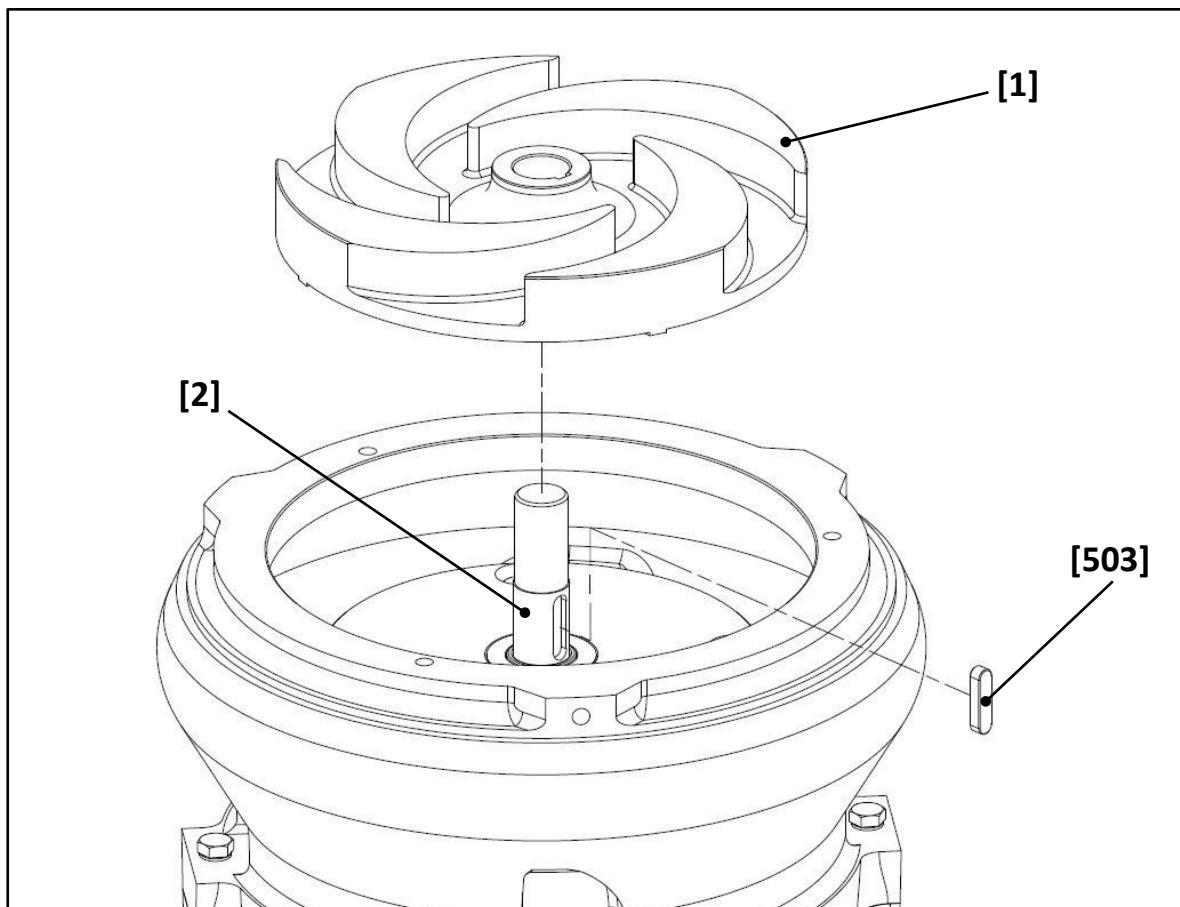

Fig. 30
- remove the impeller [1] and the key [503] from the shaft [2] (see **Fig. 30**).